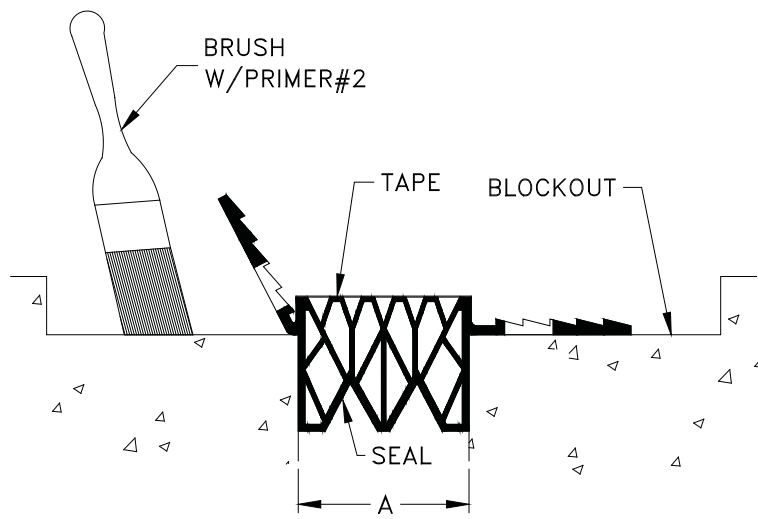

Figure 6
STEP 6. Thoroughly mix one unit of Balco Primer #2 (part A and B) and brush/roller apply to the horizontal and vertical surfaces of the blackout (see Figure 6). Ensure that the Primer #2 does not puddle. Allow the Primer #2 to cure to a point where it is just dry. Typical coverage rate is 60 ft./unit.